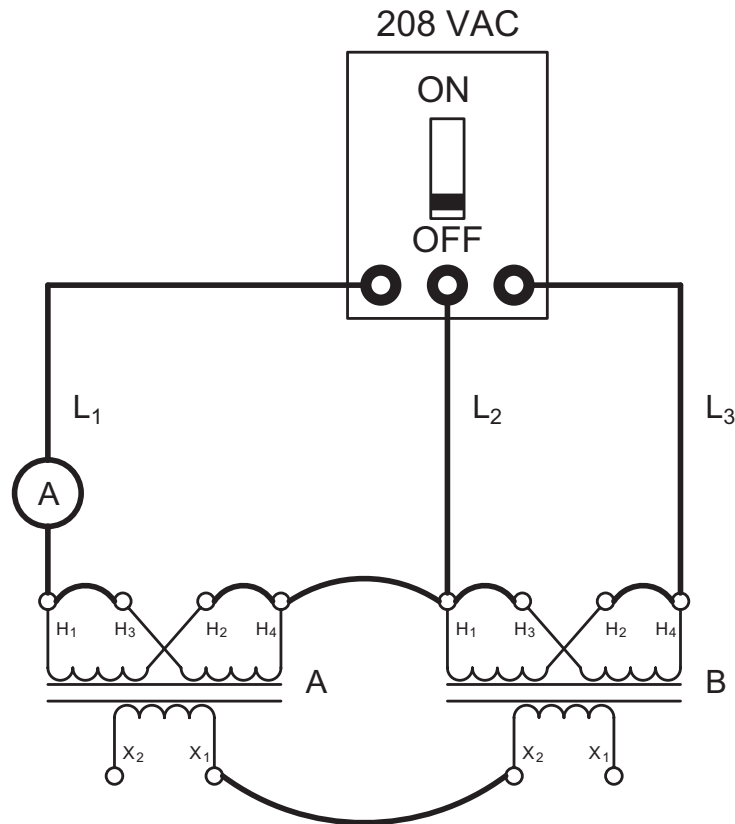

Figure 24-28 Two transformers connected in an open delta.
60. Connect the circuit shown in Figure 24-28.